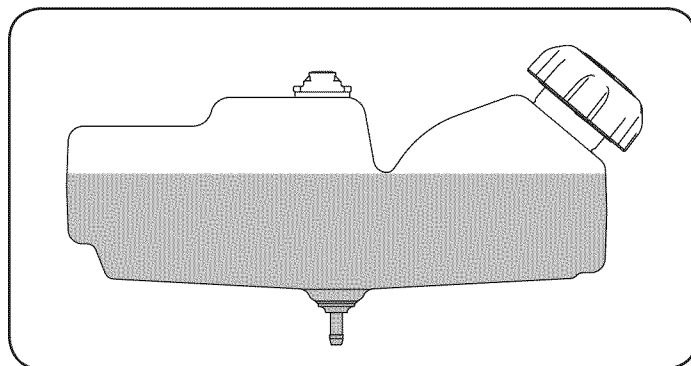

Figure 18
**NOTE:** The tractor is fitted with a tethered, ratcheting fuel cap. STOP filling the tank once the fuel is seen inside the filler neck. See Fig. 18. This ensures that a proper expansion volume is created, otherwise the fuel can overflow creating a hazardous situation. Do NOT top off the fuel tank.